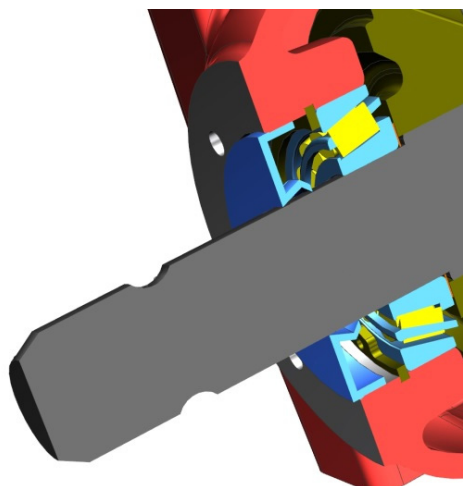

Fig. 4
- Oil seal assemble as shown on fig. 4 out from its housing seat, is prohibited.